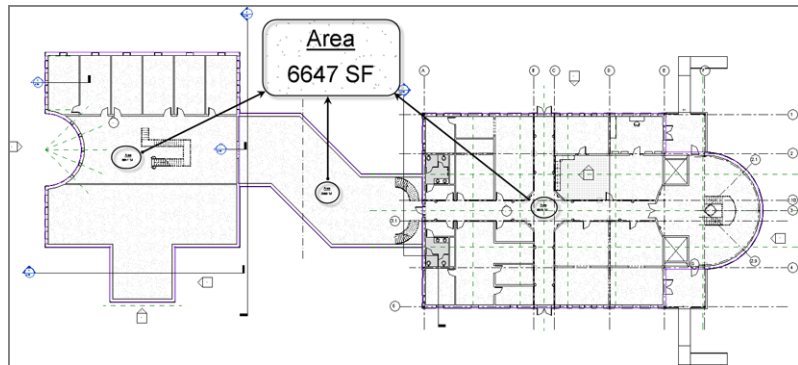

FIGURE 15.28: The plan is divided into three areas.
10. Place an area in the west wing, then in the corridor, and then in the east wing, as shown in Figure 15.28.